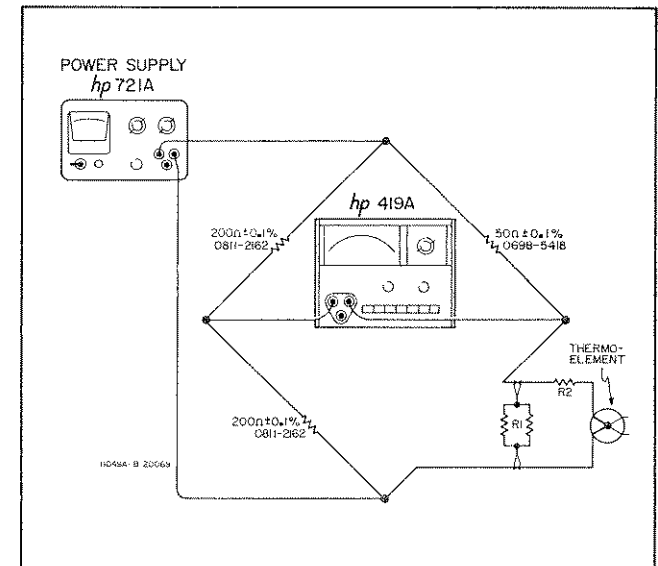

Figure 8. Selection of R1
33. Figure 8 shows a bridge for selecting R1. R1 is adjusted for null with the drive voltage set so that the thermoelement operates at near rated full scale input. Proceed as follows.
- a. With the power supply off, construct the bridge shown in Figure 8.
b. Connect an initial value of R1 as shown in Figure 8. For 11049A use two 120  $\Omega$  resistors in parallel; for 11050A use a 150  $\Omega$  and a 120  $\Omega$  resistor in parallel; for 11051A use two 220  $\Omega$  resistors in parallel.